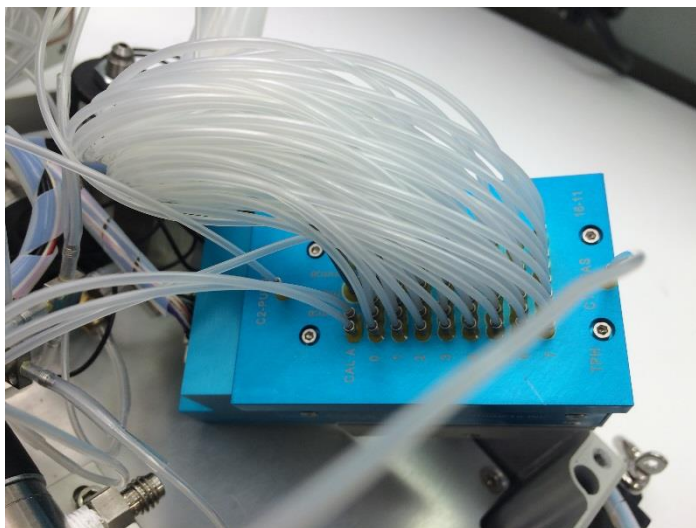

Figure 7: Removing Top Plate Screws
Step 1: Follow Steps 1 and 2 in 5.1.1. Remove four screws (PN #7) using appropriate Hex driver on top plate (see Figure 7).